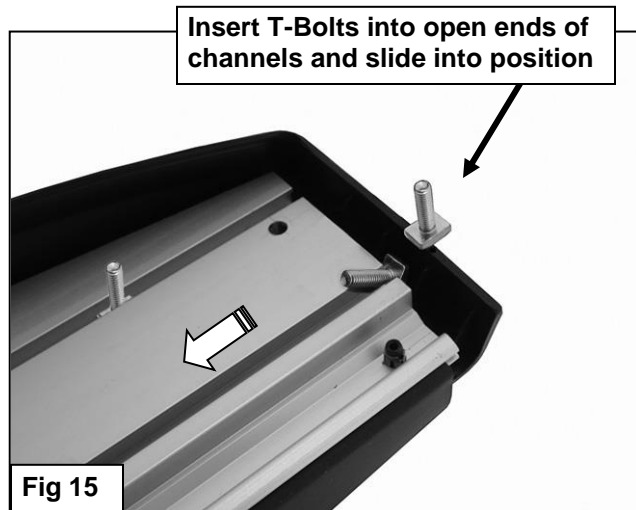

Fig 15
10. Carefully unwrap the Running Boards. From either open end on the Running Board, insert (3) 6mm T-Bolts into each channel in the bottom of the Running Board, **(Fig. 15)**. Hold the Running Board up in approximate position and slide the T-Bolts down to line up with the Mounting Brackets. Tilt the Board up at a slight angle and push back against the vehicle until the T-Bolts fit into the slots on the Brackets. Attach the Board to the Brackets with (6) 6mm Flat Washers, (6) 6mm Lock Washers and (6) 6mm Hex Nuts, **(Fig. 16)**. Do not tighten hardware at this time. **NOTE:** the Running Board is designed to fit close to the vehicle. It may be necessary to temporarily loosen the Bracket hardware and tilt the Brackets downward to insert the Running Board.